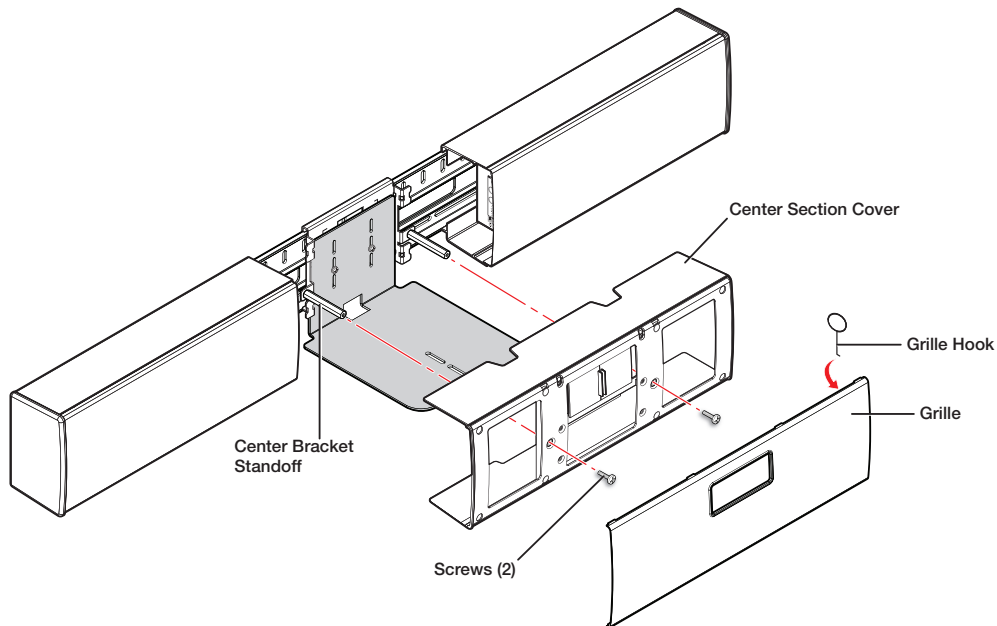

Figure 28. Attaching the Center Section Cover
4. Attach the grille to the center section cover (see figure 28).